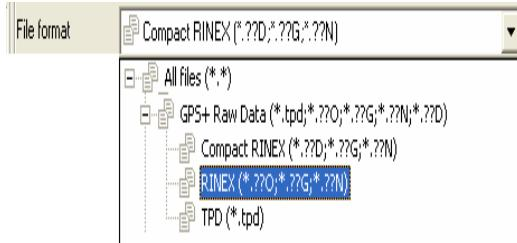

Figure 3-77. File Format List
- Select the File format (Figure 3-77).